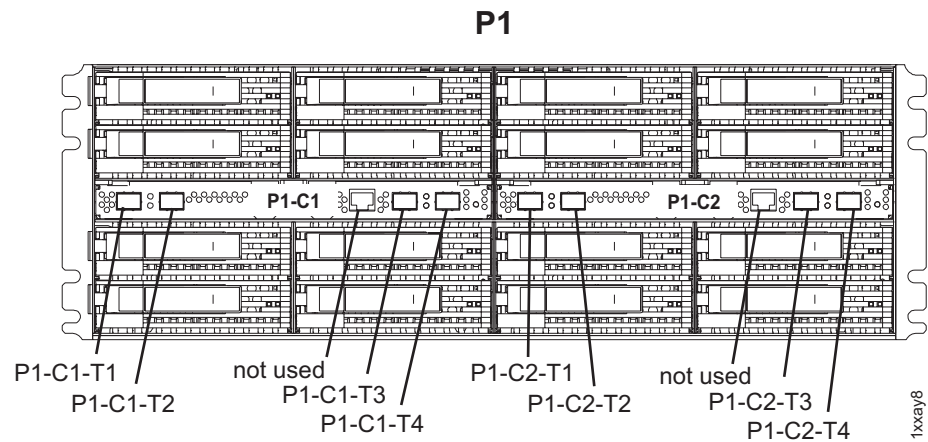

Figure 97. Storage enclosure locations
- c. Connect the FC-AL cables to the Fiber Channel Interface Card connectors. For connector locations, see Figure 97.